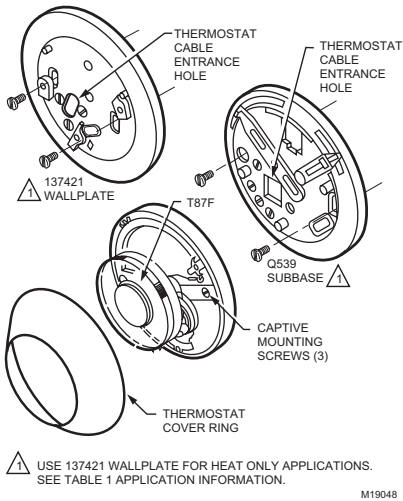

Fig. 3. Mounting T87F Thermostat and 137421 Wallplate or Q539 Subbase.
5. Loosely fasten the thermostat wallplate or subbase to the wall with a screw through the left mounting hole. See Fig. 3.